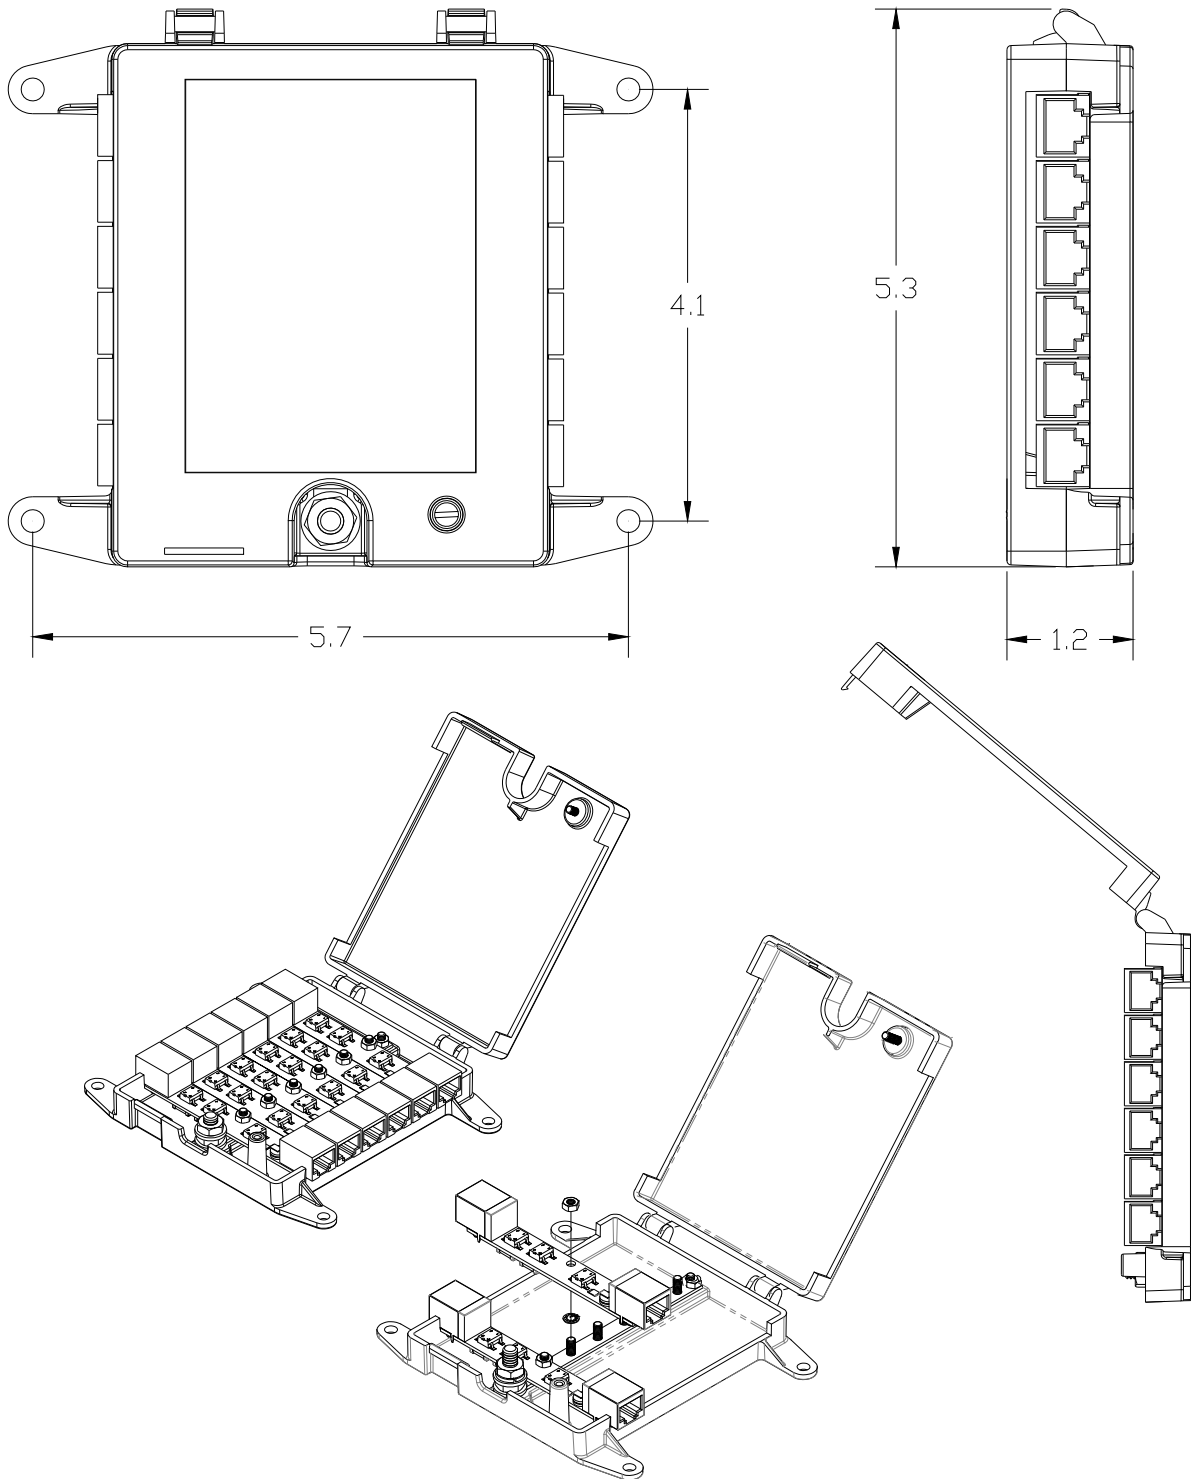

Figure 1. Mechanical outline drawing (inches)
5.3. **Dimensions** (see Figure 1 next page) 5.3" high , 5.7" wide, 1.2" deep (13.5 cm x 14.5 cm x 3.0 cm)